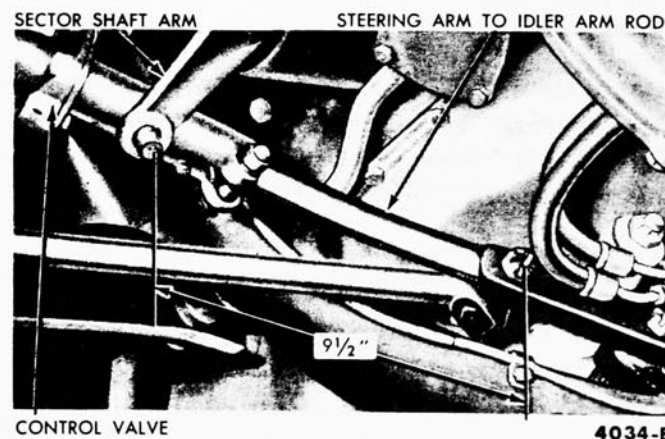

FIG. 18—Valve Installation Measurement
spindle connecting rod (Fig. 18). Be sure that the measurement is taken parallel to the centerline of the control valve. The distance should be 9½ inches. If the distance is not correct, disconnect the ball stud from the sector shaft arm and turn the valve on the steering arm to idler arm rod to increase or decrease the distance.
3. Measure the distance between the center of the ball stud in the sector shaft arm and the center of the stud at the inner end of the left-hand spindle connecting rod (Fig. 18). **Be sure that the measurement is taken parallel to the centerline of the control valve.** The distance should be 9½ inches. If the distance is not correct, disconnect the steering arm to idler arm rod from the idler arm and the spindle connecting rod. Then turn the steering arm to idler arm in the control valve to increase or decrease the distance.